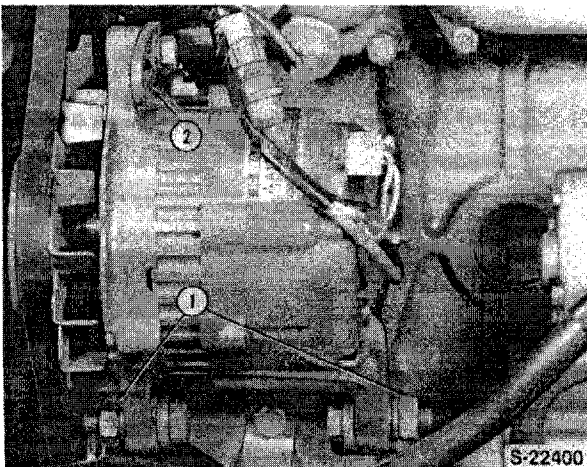

Figure 97
3. Loosen the alternator mounting bolt and adjusting bracket and remove the drive belt, Figure 97.